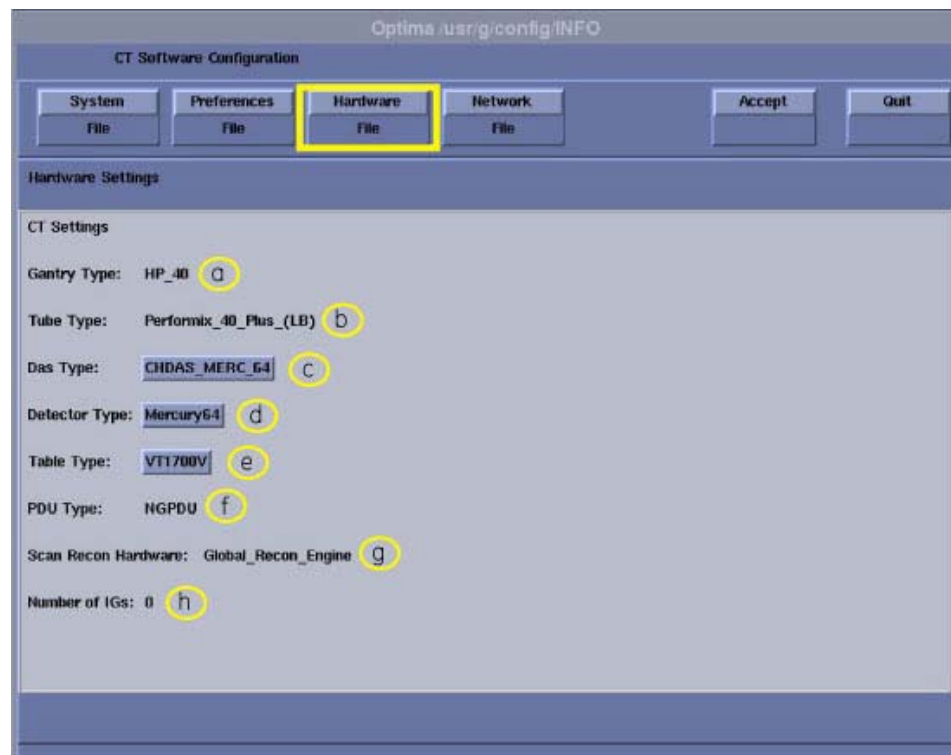

Figure 6-6 Hardware Settings
- 8.) Click the **HARDWARE** button to display the Hardware Settings Screen. See Figure 6-6.